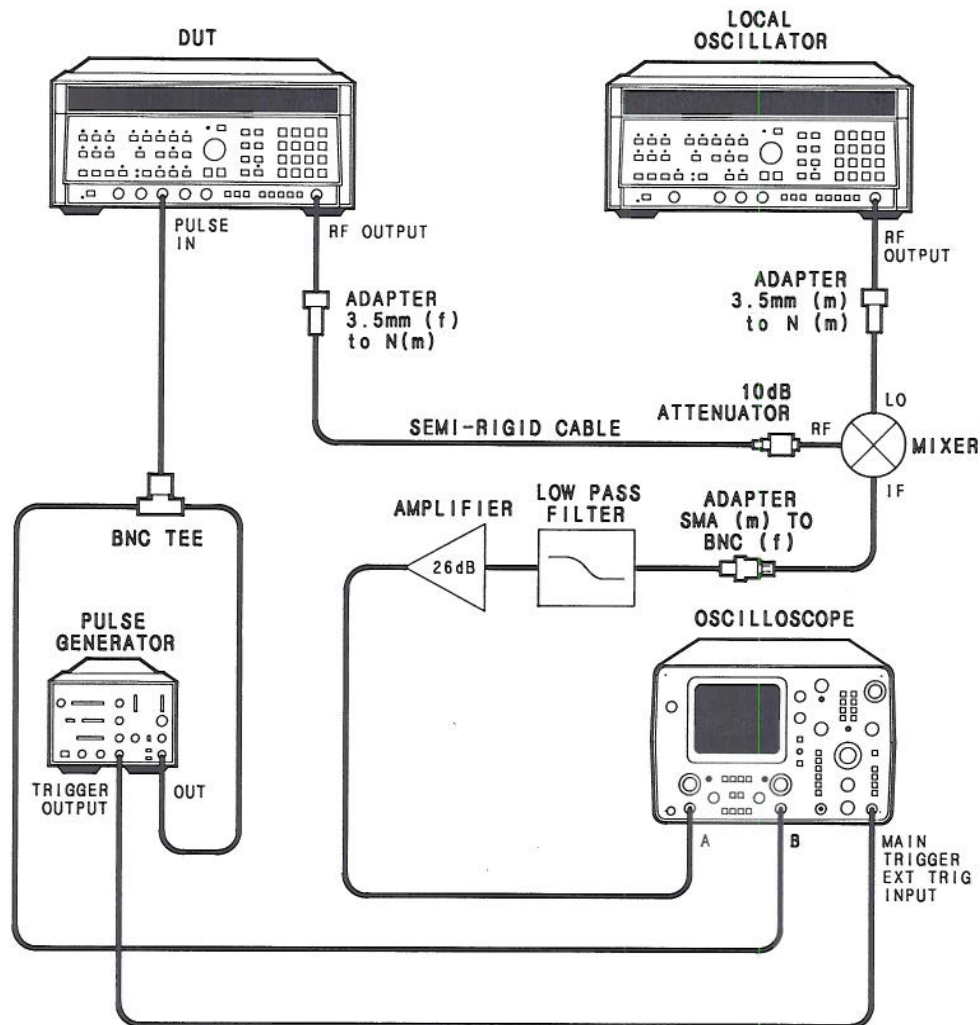

Figure 4-13. Pulse Modulation Rise and Fall Time Test Setup
1. Connect equipment as shown in Figure 4-13. Connect the mixer directly to the local oscillator RF output to obtain maximum LO drive to the mixer. Connect the BNC tee directly to the DUT's PULSE IN connector. Allow a one hour warm up time.